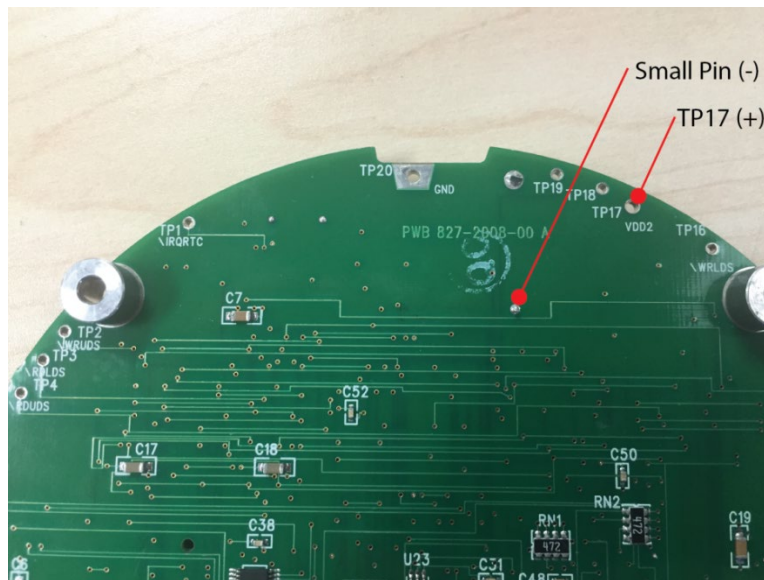

Figure 60. Lithium Battery Test Points on the CPU Board
5. Measure the voltage on the CPU board between TP17 (BAT+) and the small pin on the battery located on the back side of the CPU board (GND) (see Figure 60).